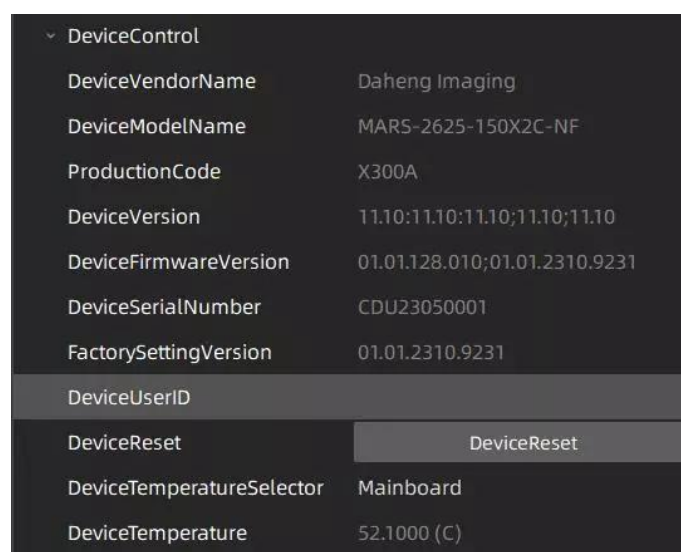

Figure 8-44 GalxyView software
- 1) Set by the GalxyView, as shown in the Figure 8-44.